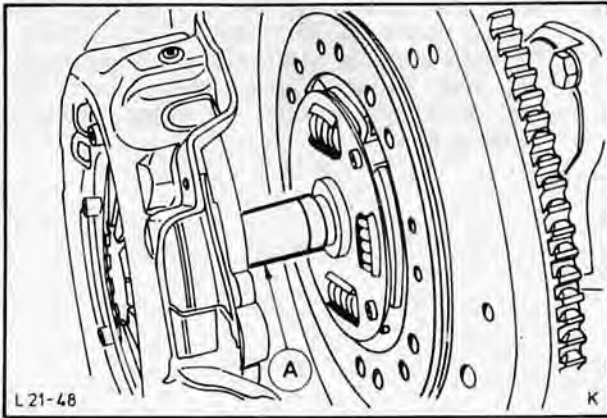

Fig. 105. Centre clutch disc using
40. Centre clutch disc, using Special Tool 21-044, Fig. 105. Place pressure plate on dowels and torque as specified in Technical Data.